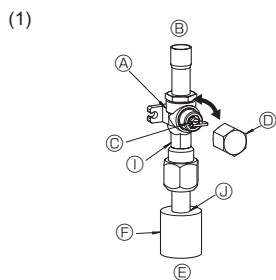

Fig. 4-6
- (1) Gas side (Fig. 4-6)
- ① Remove the cap, pull the handle toward you and rotate 1/4 turn in a counterclockwise direction to open.
- ② Make sure that the stop valve is open completely, push in the handle and rotate the cap back to its original position.